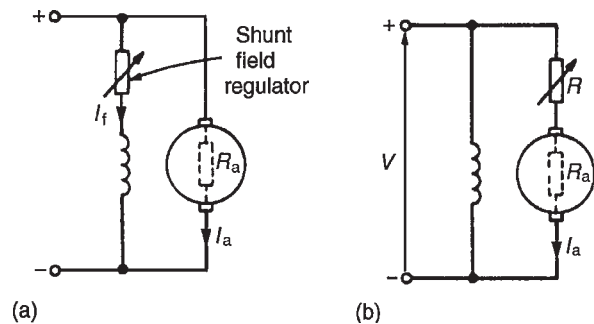

Figure 25.29
(see equation (9)). The speed is varied either by varying the value of flux, Φ , or by varying the value of R_a . The former is achieved by using a variable resistor in series with the field winding, as shown in Fig. 25.29(a) and such a resistor is called the **shunt field regulator**.
are obtained by increasing the resistance in the armature circuit, as shown in Fig. 25.29(b), where
- (a) With reference to Fig. 25.29(b), back e.m.f. at 120 A, $E_1 = V - I_a R_a = 500 - (120)(0.2)$